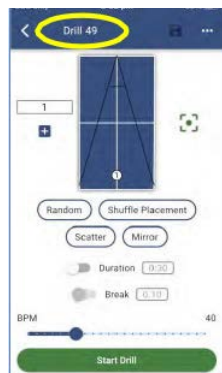

Figure 3-29
2. Push the **[+]** icon (bottom right). A new Drill will be created. If this is the first new Drill you are creating, it will be assigned the name Drill 49. (Figure 3-29) This is because the App comes with 45 preset Drills plus 3 Test Drills (45+3=48), so the app will simply use the next highest number, for the next Drill name.